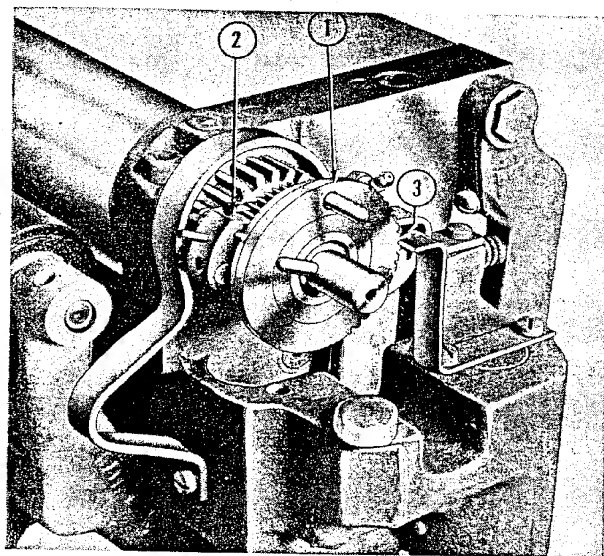

Figure 30—Fountain Blade Roller Feed Setting
(2) HOW TO SET FOUNTAIN ROLLER FEED. (See figure 30.)—The fountain roller is geared and timed to turn slightly with each press impression. The amount that the roller turns is determined by the setting of a cam set-wheel (1) which controls the movement of the fountain roller pawl and ratchet (2). Figure 30 shows the recommended setting (set-wheel spring (3) engaged in eighth notch of set wheel) when starting a job. With set wheel in this position, each notch in set wheel will represent $\frac{1}{8}$ full ink flow, thereby permitting, by moving the position of the spring, ink flow to be reduced as low as $\frac{1}{8}$ full flow.